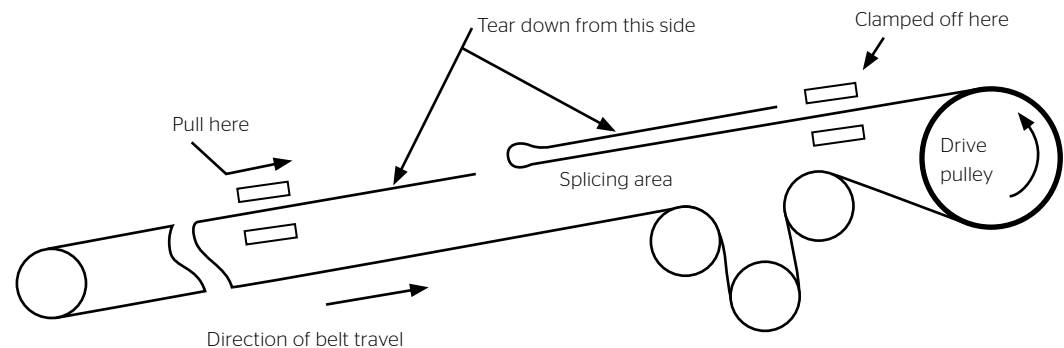

Fig. 3-6 Splice Direction - Decline (Regenerative) Belts
2. In most decline (regenerative) belts, the splice is prepared according to Fig. 3-6 so that the pulley side joint trails and the top side joint leads the direction of belt travel.